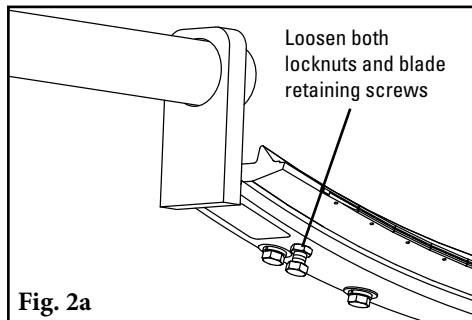

Fig. 2a
- Loosen both locknuts on the blade retaining screws. Turn blade retaining screws out 8 turns (Fig. 2a).